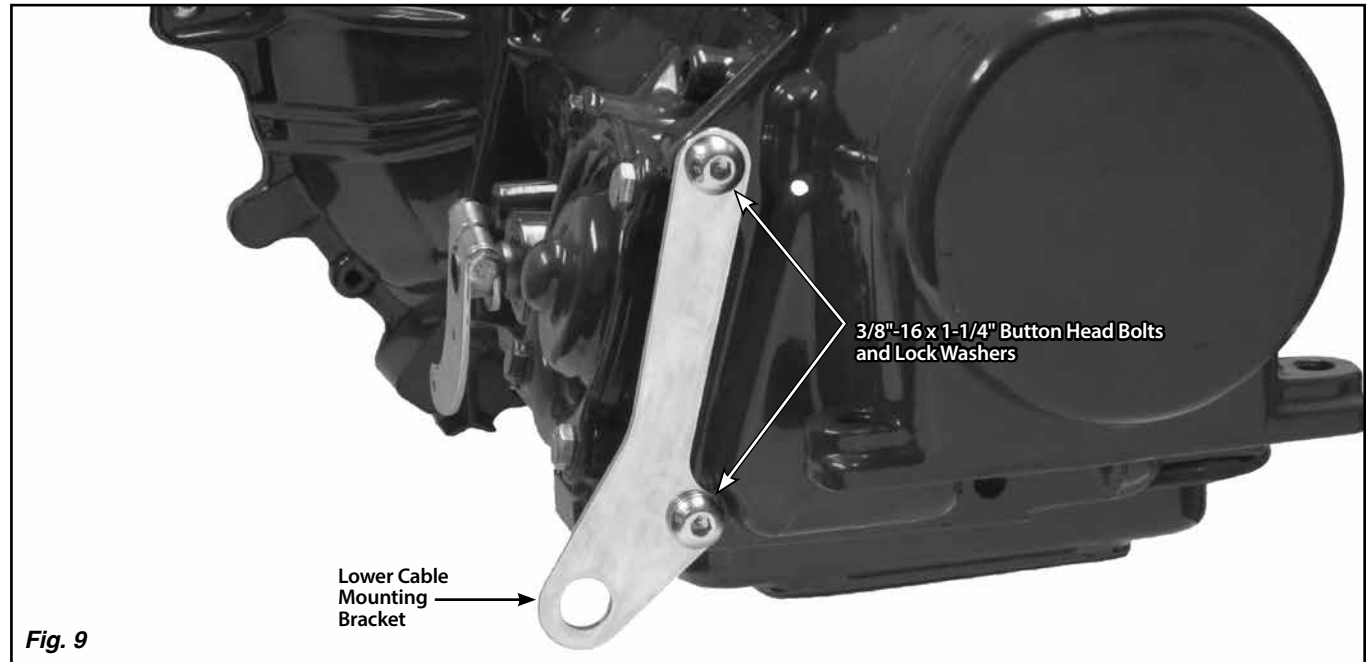

Fig. 9
Step 11: Remove the lower two tail housing bolts from the driver side of the transmission. Install the lower cable mounting bracket onto the driver side of the tail housing, using the provided 3/8"-16 x 1-1/4" button head bolts and lock washers. **Fig. 9**